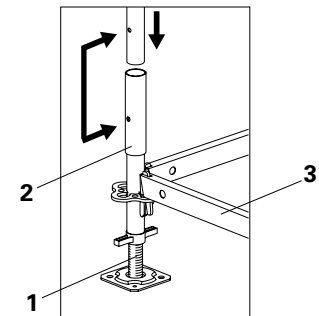

Fig. A2.06a
1. Insert Standard UVR (4a/4b) on the Base Standard UVB 24 (2). (Fig. A2.06a)
2. Align the insert holes with each other. (Fig. A2.06a)